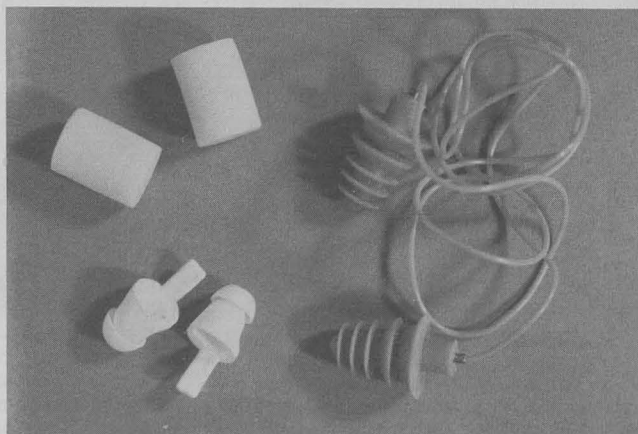

Figure 9
2. Ear plugs—various types are available. They are inserted into the ear canal and prevent high frequency noise from entering the ear by blocking the ear canal (see figure 9). It is important that the wearer knows how to properly insert the ear plug. When purchasing ear plugs, make sure the directions for insertion are closely followed so that a snug, tight fit is obtained in the ear canal when the plug is inserted.